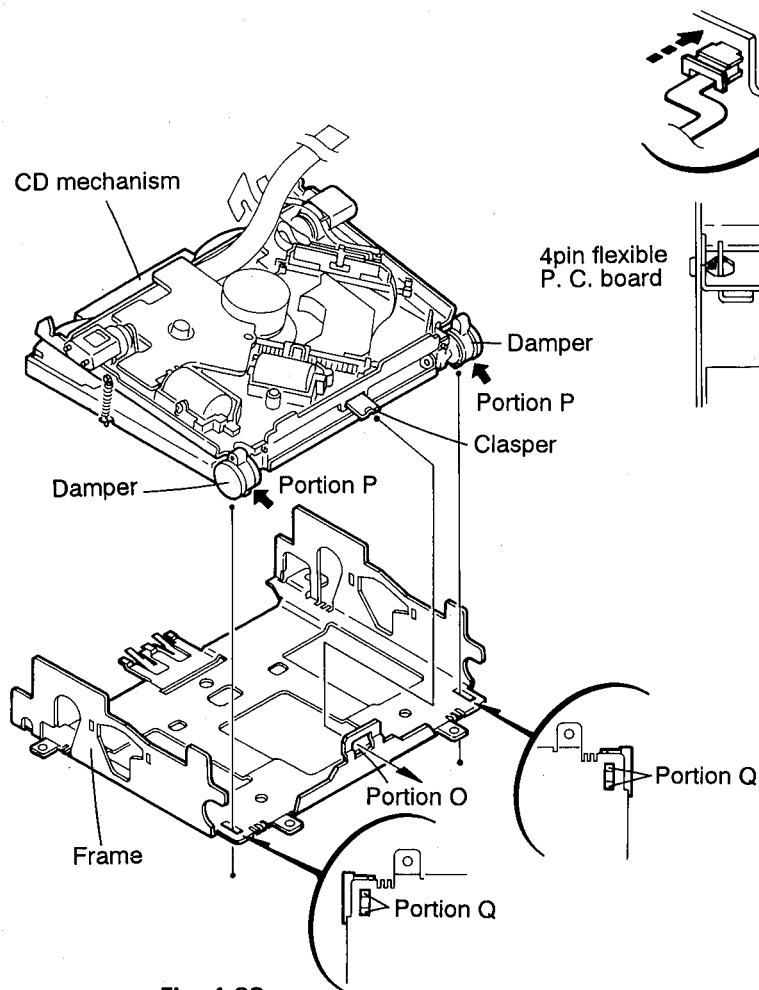

Fig. 4-32
5. After inserting the CD mechanism assembly diagonally to the front side of the frame, assemble the mechanism by inserting the clasper (provided on the rear side) into the hole at the portion of the frame while pressing the clasper (See Fig. 4-32).
Note 5. After turning back the frame, make sure that the pawl retaining the damper portion P has been engaged correctly with the hole at the portion Q of the frame as shown in Fig. 4-32.